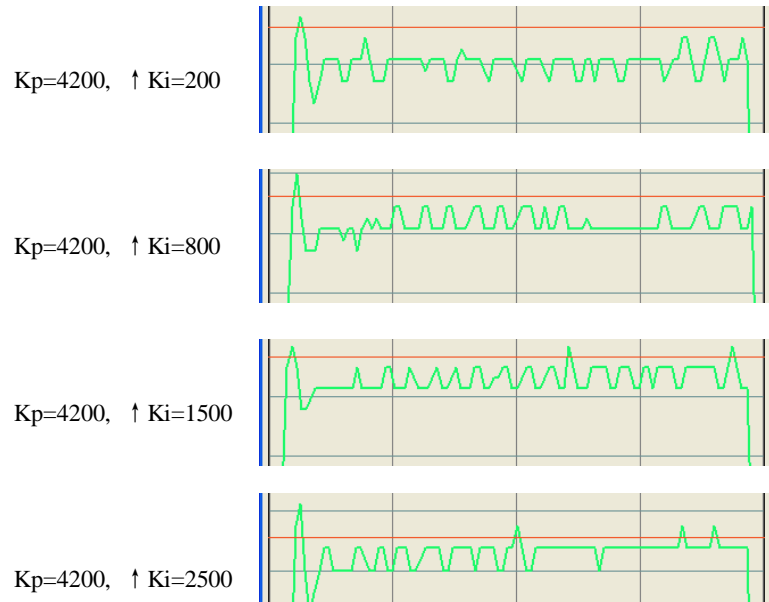

Figure 6-24: Current loop tuning with Kp=4200 and increasing Ki
Step 4: Now **Kp** is relative good enough. But there is still gap between the green curve and the red curve when we use the mouse to zoom in it as shown in figure 6-24. There is also big vibration, which will cause motor noise, on the green curve. So we need to introduce **Ki**, the integral gain to reduce the “gap” or steady error at the constant part. It follows the same procedure as **Kp**. Too high **Ki** will causes big vibration, system lag and makes the performance worse. See figure 6-24 for this procedure. Increase **Ki** until the gap can be accepted and not causes much vibration.